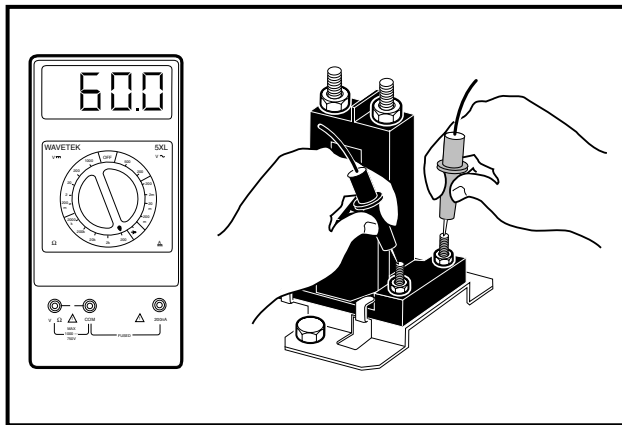

Figure 11-7 Solenoid Activating Coil Test
2. Place the red probe (+) of the multimeter (set to 200  $\Omega$ ) on one of the small activating coil posts of the solenoid and place the black (-) probe on the other small post. There should be a reading of 55-60  $\Omega$  (ohms) (**Figure 11-7, Page 11-10**).